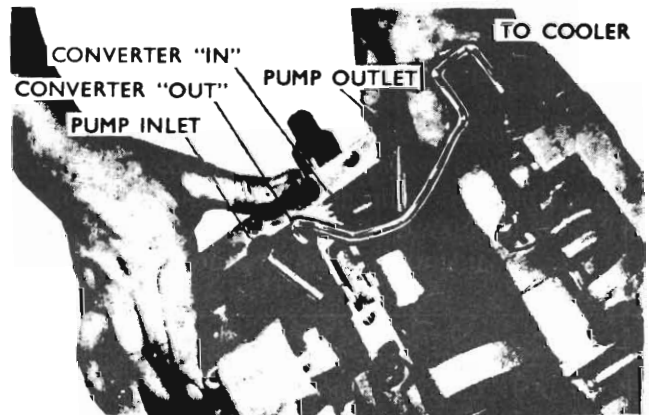

Fig. 23 – Valve body to pump assembly tubes
(4) Remove the 3 valve body retaining bolts (7/16" hex. heads).
(5) Carefully detach the transmission throttle valve cable from the valve cam.
(6) Disengage the valve body assembly from the 3 supply tubes at front of the transmission. Refer Fig. 23.
(7) Remove the pump intake tube O-ring (from the tube or recess (Fig. 23) in converter support).